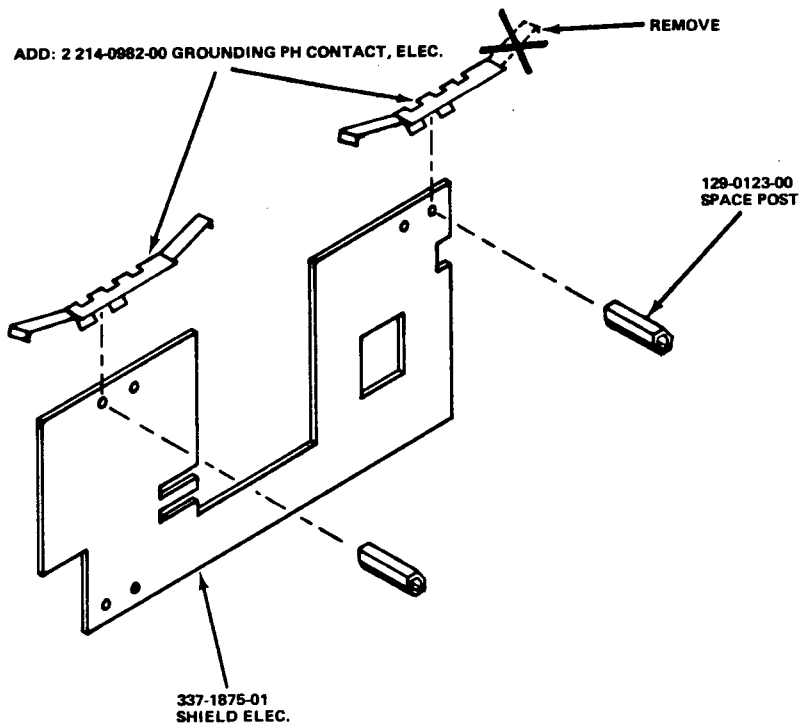

Fig. 1 - Ground Spring Installation
- () 17. Install the included ground springs between the top front and rear spacer posts. Remove the rear facing leaf from the rear ground spring (so it will clear the rear panel). See fig. 1.